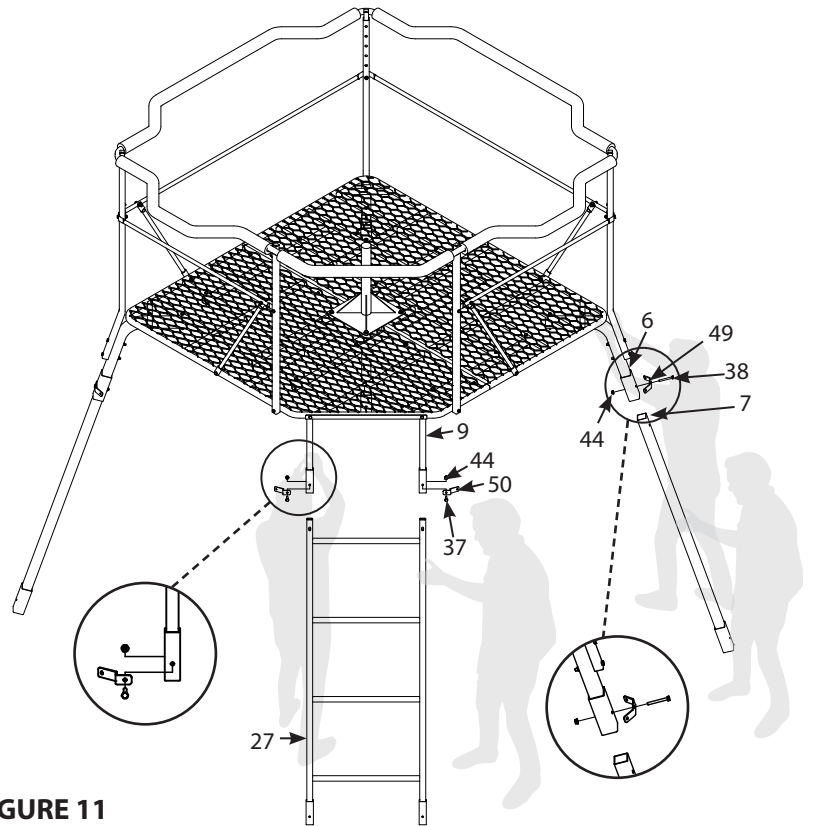

FIGURE 11
11. With the help of two people, lift platform up and insert one top leg (7) into leg-to-platform attachment part (6). Attach a brace-to-leg attachment bracket (49) to leg and secure together using a 1/4-20 X 2-1/4 IN bolt (38) and 1/4-20 nut (44). Bolt must go through all parts (49, 6, 7). **SEE FIGURE 11.**
Then, insert the top ladder section (27) into the ladder-to-platform attachment part (9). Attach a brace-to-ladder attachment bracket (50) to each side of the ladder and secure with a 1/4-20 X 1-3/4 IN bolt (37) and 1/4-20 nut (44) on each side. Bolts must go through all parts (50, 9, 27). **SEE FIGURE 11. Securely tighten all loose hardware at this time.**